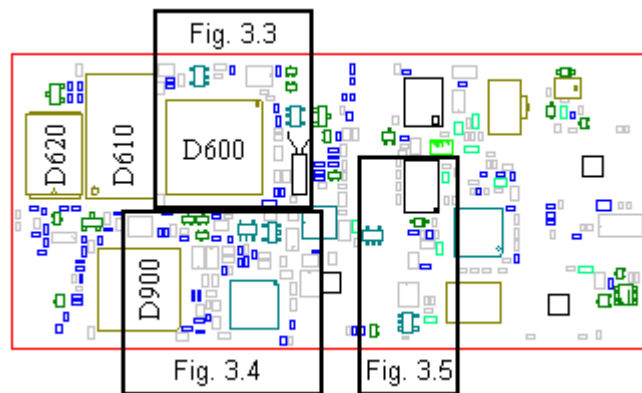

Fig. 3.2
Make sure D600, D610 and D620 are soldered correctly (fig. 3.2).
- * If the phone starts once it's programmed in the flash programmer it probably isn't a faulty phone. To eliminate intermittent faults, check the board for liquid damages and check if the D600, D610 and D620 (fig. 3.2) chips are correctly soldered.
- * If the soldering is correct, replace D600 (class B, fig. 3.2).